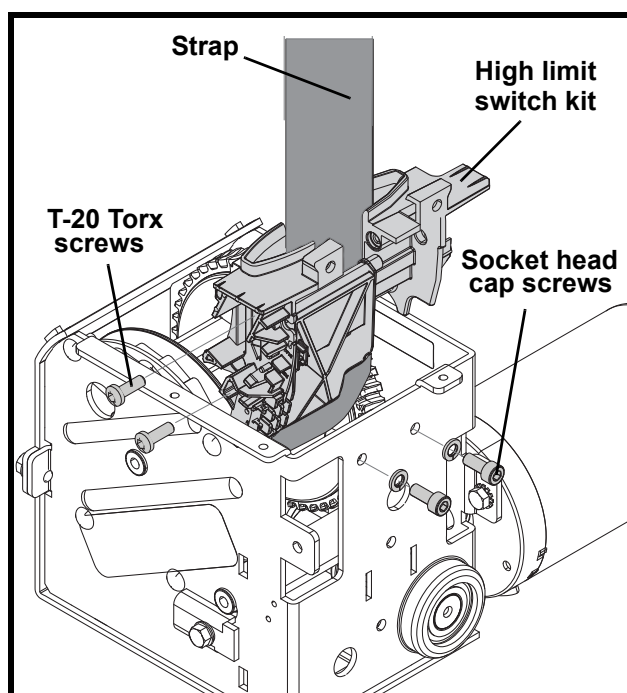

Fig. 26
- 4) Loosen the high limit switch kit assembly by removing the 2 socket head cap screws with the 4 mm Allen key (see Fig. 26).
- 6) Unscrew the 2 T-20 Torx screws (see Fig. 26).